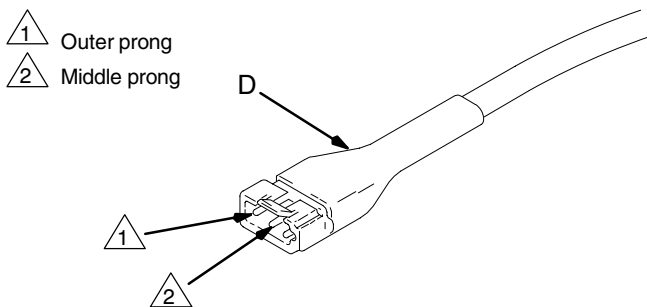

Fig. 3 04441
- a. Use an ohmmeter to check the electrical resistance of the two outer prongs of the connector (D) that attaches to the heated hose control. See Fig. 3. The resistance for the various lengths of coupled hose assemblies is given in the following coupled hose chart.